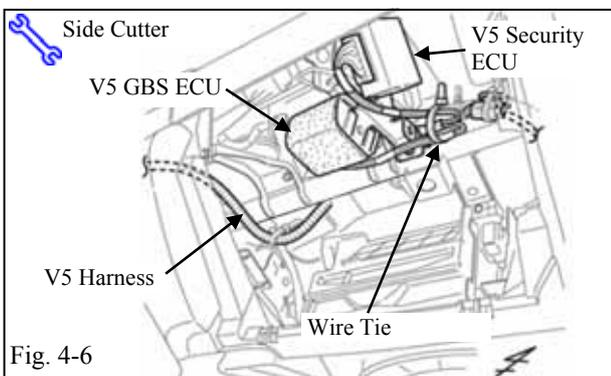

Fig. 4-6
- (h) Secure the V5 ECU harness and the GBS ECU portion of the V5 harness to the vehicle harness with one large wire tie. (Fig. 4-6)